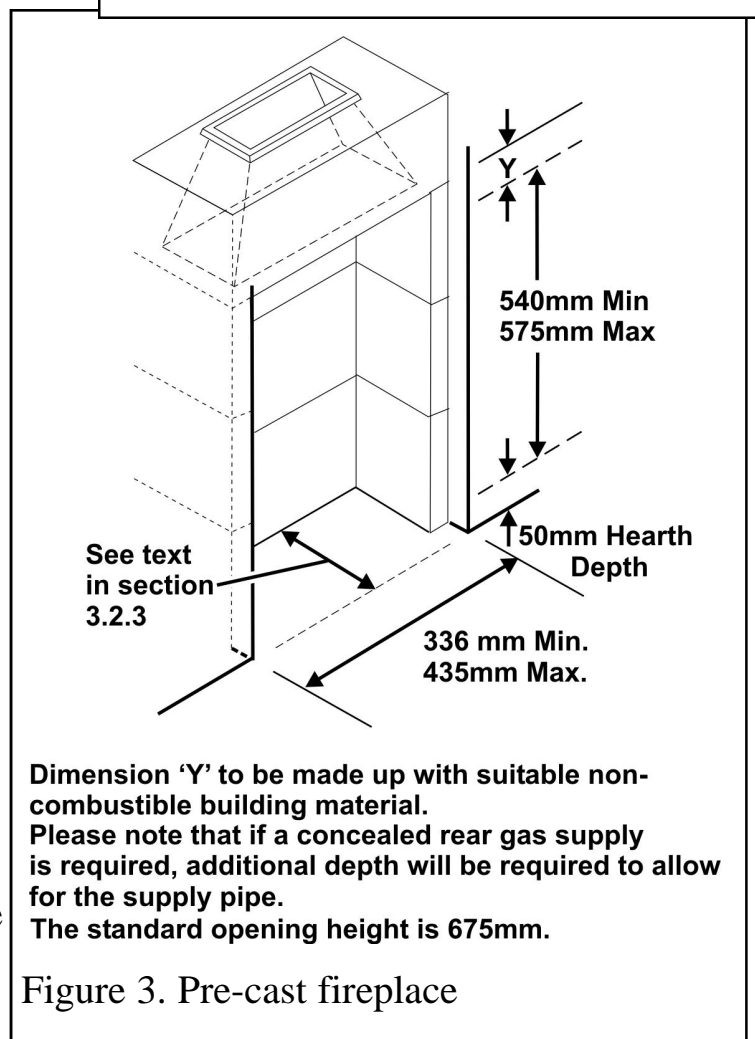

Figure 3. Pre-cast fireplace
3.2.3 (See figure 3). To a fireplace that has a precast concrete or clay flue block system conforming to BS1289 or BS EN 1806. The appliance is suitable for installations conforming to older versions of BS1289 as well as the current edition. The flue blocks must have a minimum width not less than 63mm and a cross-sectional area not less than $13,000\text{mm}^2$. Older editions of BS1289 required a cross-sectional area of $13,000\text{mm}^2$. The current revision of the standard requires $16,500\text{mm}^2$. This appliance is suitable in both cases. The total depth of the opening measured from the finished front of the fireplace (Including plaster, surround etc.) must be as below: